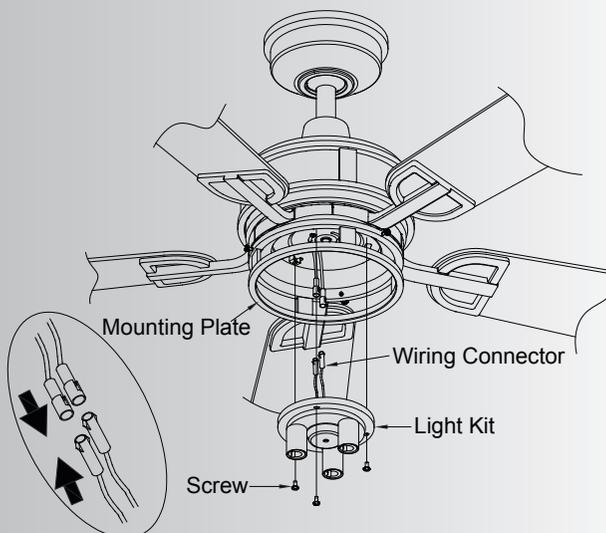

Fig. 22
**Step 2.** Remove the 3 preinstalled screws from the mounting plate as shown. Save them for reuse on step 3. (Fig. 22)
**Step 3.** Hold the light kit close to the mounting plate and connect the WHITE wires from the mounting plate and fan by pushing the connectors together. Follow the same procedure with the BLACK wires. (Fig. 22)
**Step 4.** Tuck the connections neatly into the light kit. Align the screw holes on the light kit and mounting plate. Securely tighten all 3 screws removed previously. (Fig. 22)